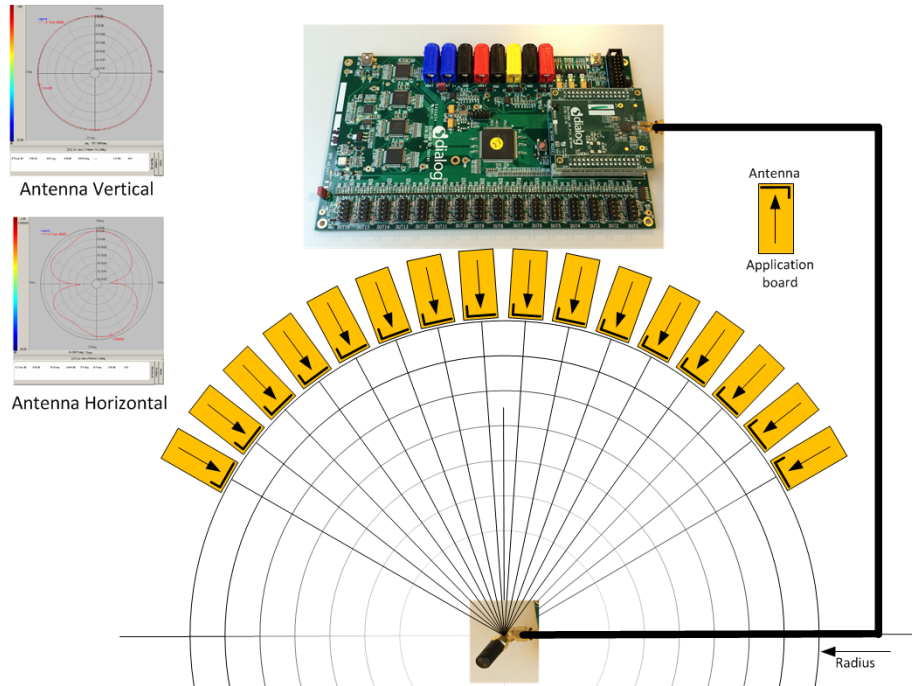

Figure 115. Possible solution of antenna on cable and fixed radius of DUTs to antenna
- A vertical GU antenna has different characteristics from a horizontal one, see Figure 115.